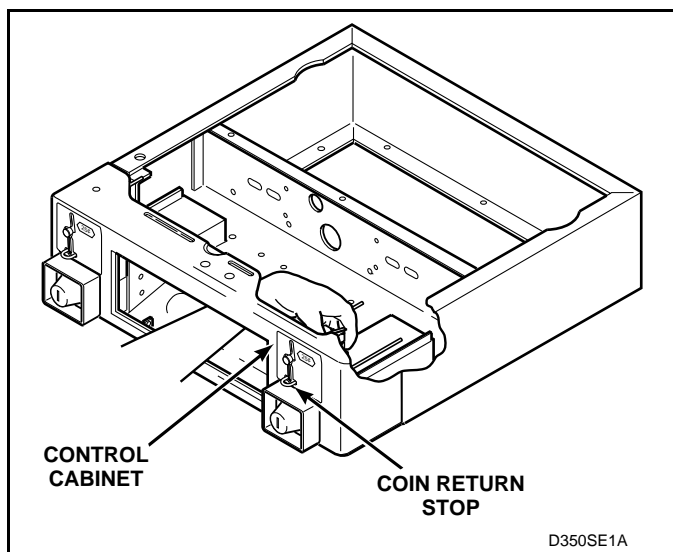

Figure 25
- (4) Carefully slide coin drop forward into position, as shown in *Figure 25*. (Front face plate of coin drop should be secure against control cabinet, with coin return stop completely through slot.)